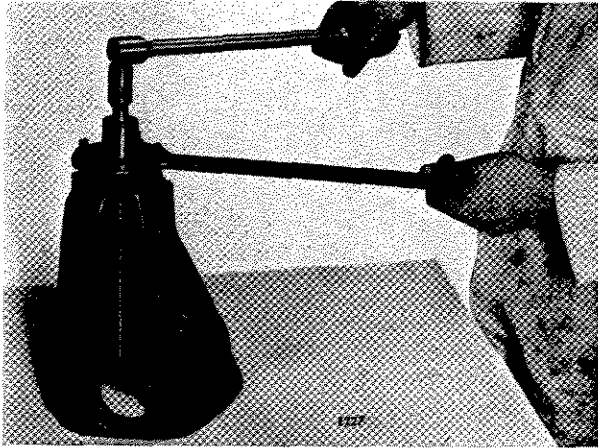
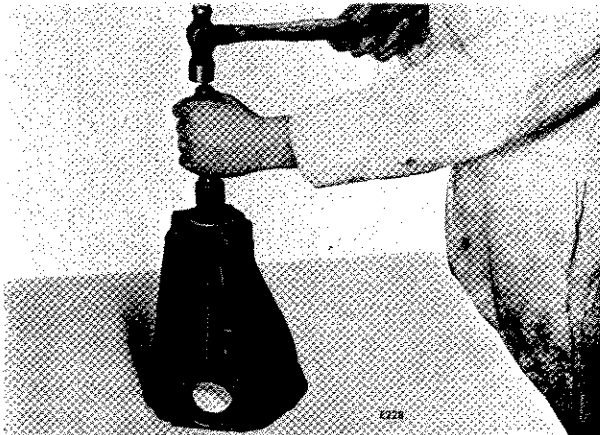

Fig. 74. Removing the pinion shaft nut
Fig. 75. Driving out the pinion
Withdraw the split pin, fit the peg spanner (Fig. 74) over the companion flange (18) and remove the castellated nut (23) and the washer (16). Drive out the pinion (Fig. 75) taking care to avoid damaging the threaded end diameter.